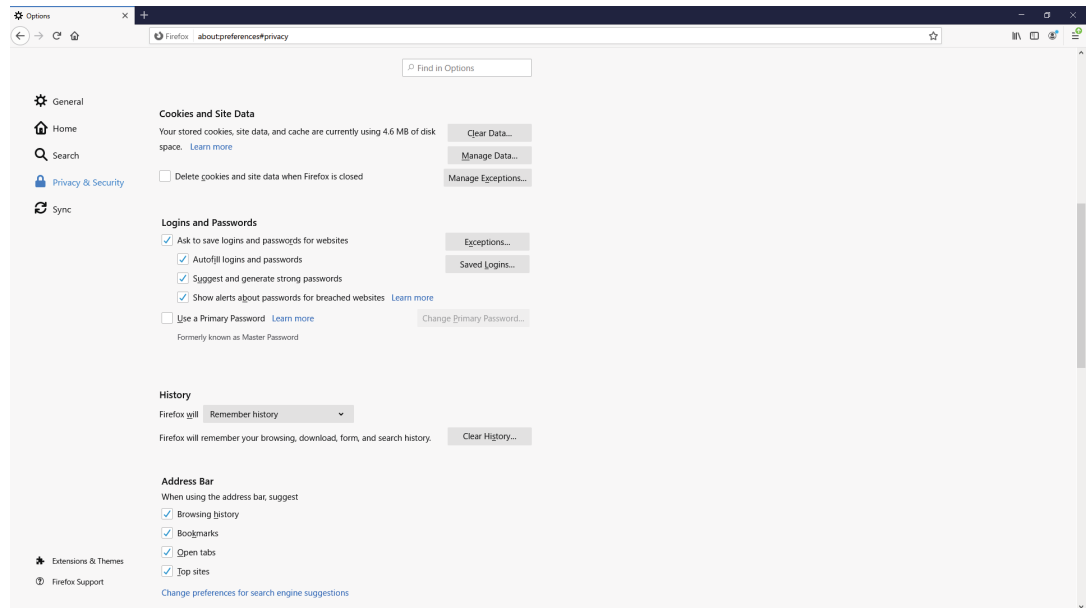
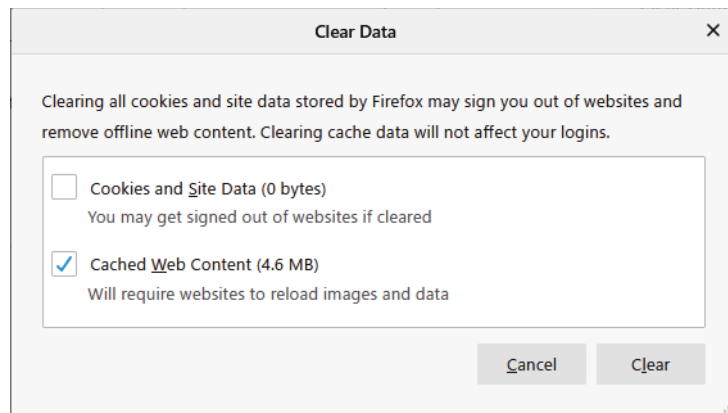

Figure 130. 'Options' window.
Figure 131. 'Clear data' window.
- When the 'Options' window is displayed, select **Privacy & Security** at the left of the 'Options' window (Figure 130). The 'Clear data' window pops up (Figure 131).
- Check "Cached Web Content" at the window bottom, and then select **Clear** (Figure 131). The cache is now deleted.